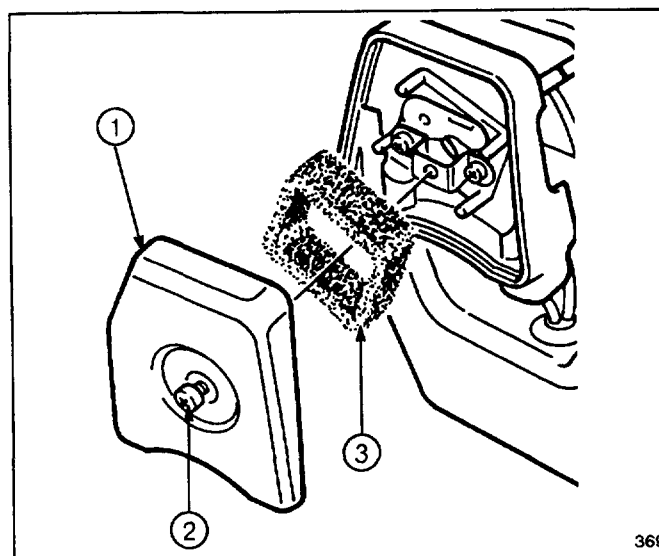

Figure 18
SERVICING AIR CLEANER (Fig. 18)
5. Reinstall air cleaner components as shown in Figure 18.